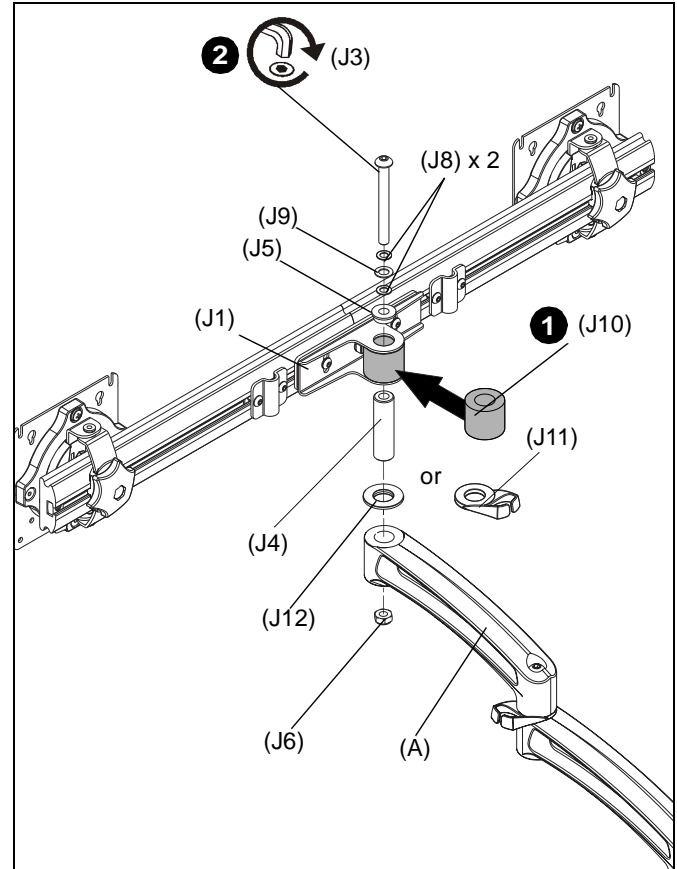

Figure 2
1. Slide rotational spacer (J10) into opening on array attachment bracket. (See Figure 2)
2. Use 5/16-18 x 3" button head cap screw (J3), two thin steel washers (J8) x 2, plastic spacer (J9), pocket washer (J5), pivot pin (J4), pivot point spacer (J12) and 5/16-18 lock nut (J6) to secure array (J1) to K2 arm (A). (See Figure 2)
NOTE: Cable clip (J11) can be used in place of pivot point spacer (J12) if additional cable management is desired. (See Figure 2)